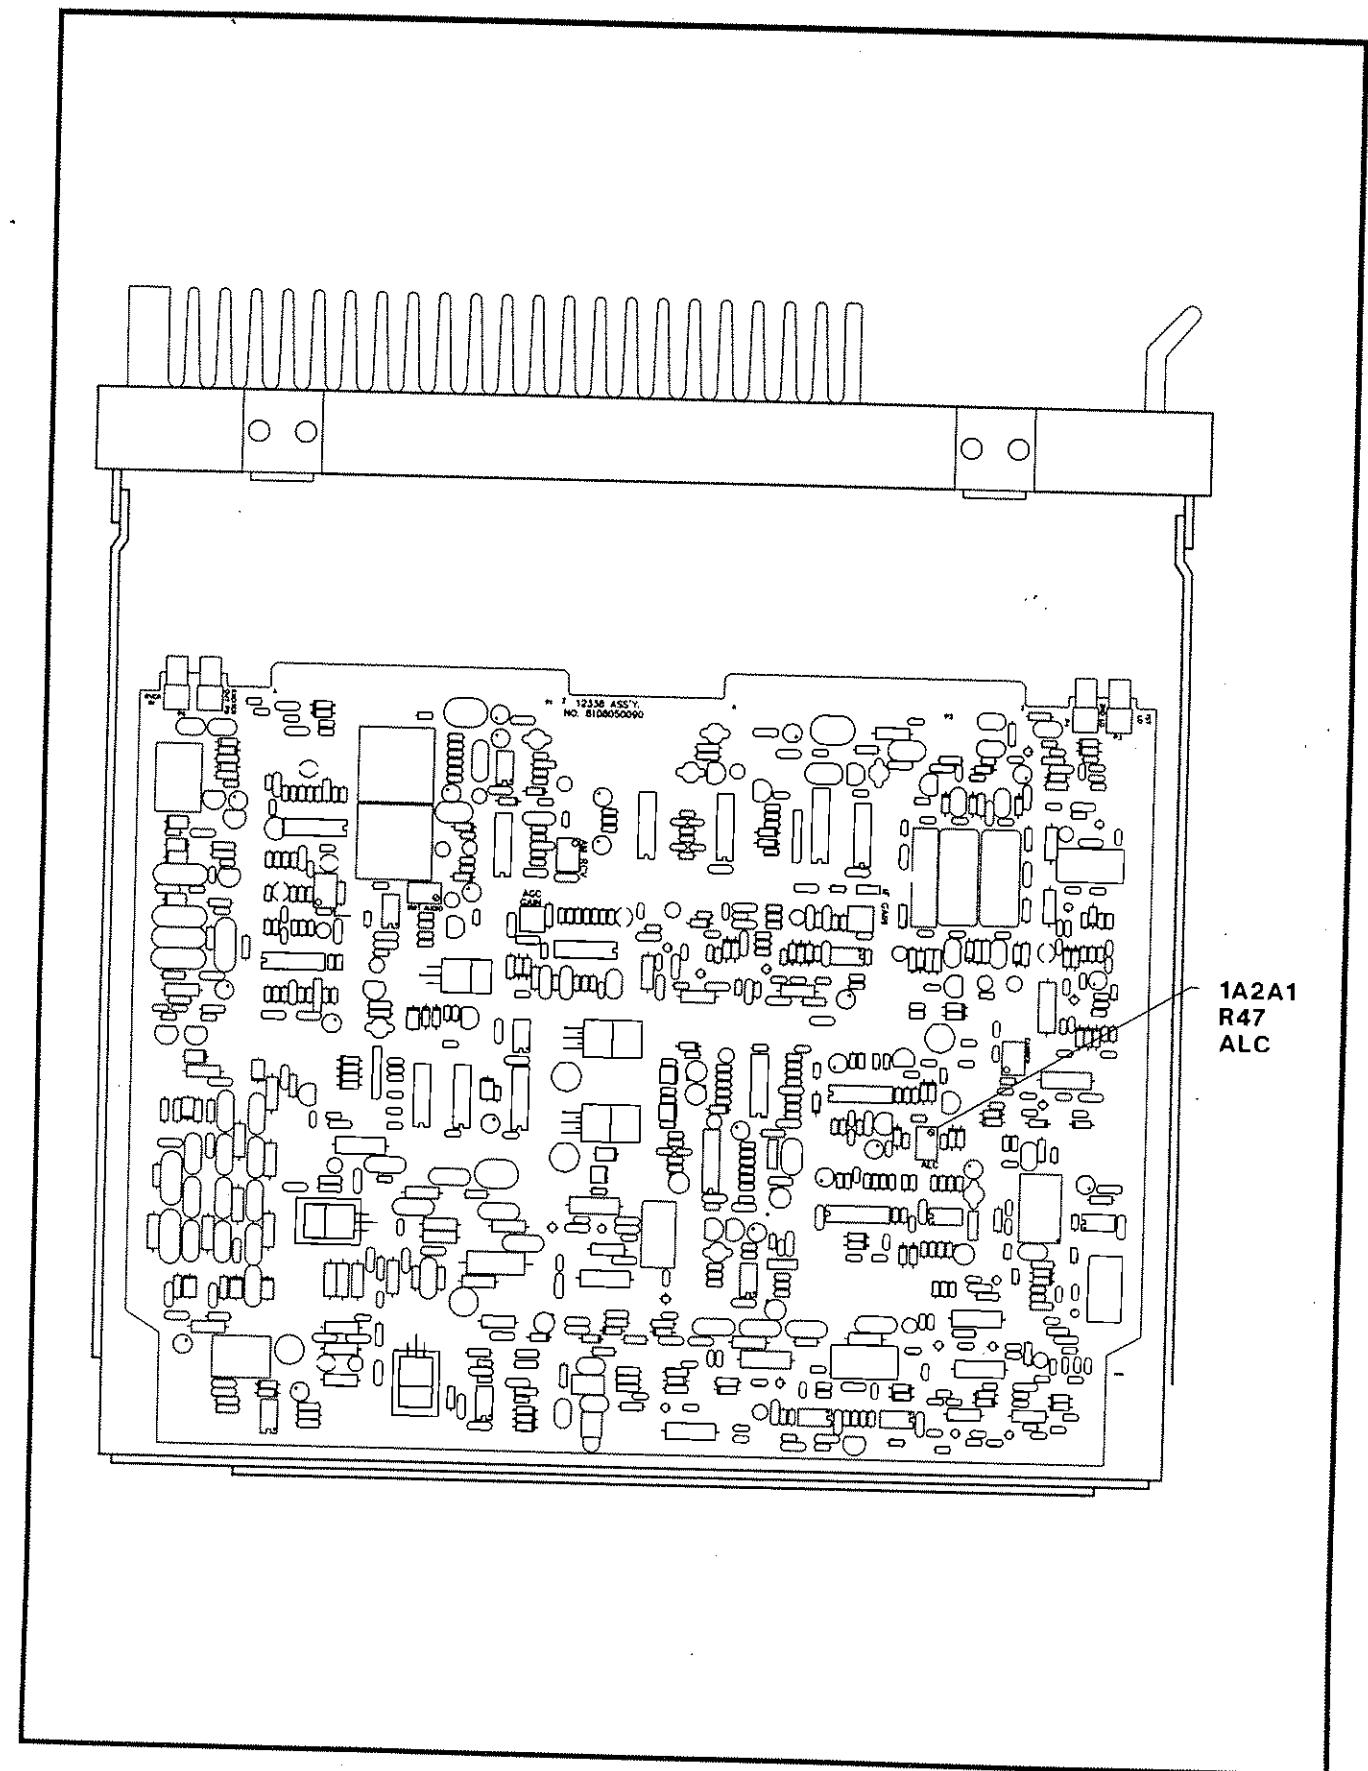

Figure 5.6.3 RT-2410 Alignment Adjustment Locations (TOP).
- c) Depress the CW key and adjust 1A2A1 R47 (ALC) on the Receiver/Exciter until output power is 125 Watts/79 VRMS or 223 V peak to peak (See Table 5.6.1 and Figure 5.6.3), release CW key.
- c) Depress the CW key and adjust 1A2A1 R47 (ALC) on the Receiver/Exciter until output power is 100 Watts/71 VRMS or 201 V peak to peak (See Table 5.6.1 and Figure 5.6.3), release CW key.